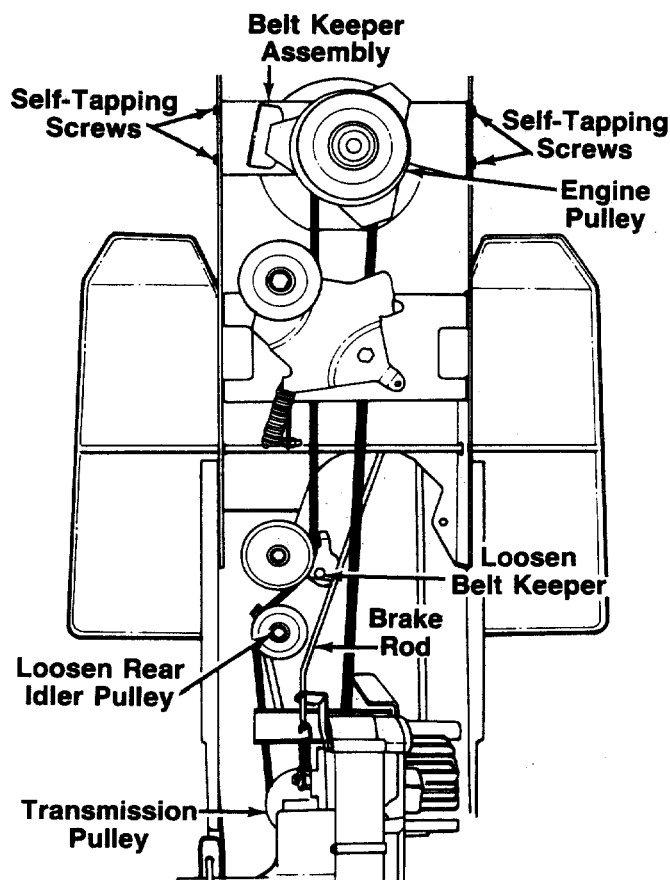

FIGURE 22.
## DRIVE BELT REPLACEMENT (See figure 22)
4. Remove the four self-tapping screws which hold the belt keeper assembly to the frame at the engine pulley. Push the belt keeper assembly forward, out of the way. See figure 22.